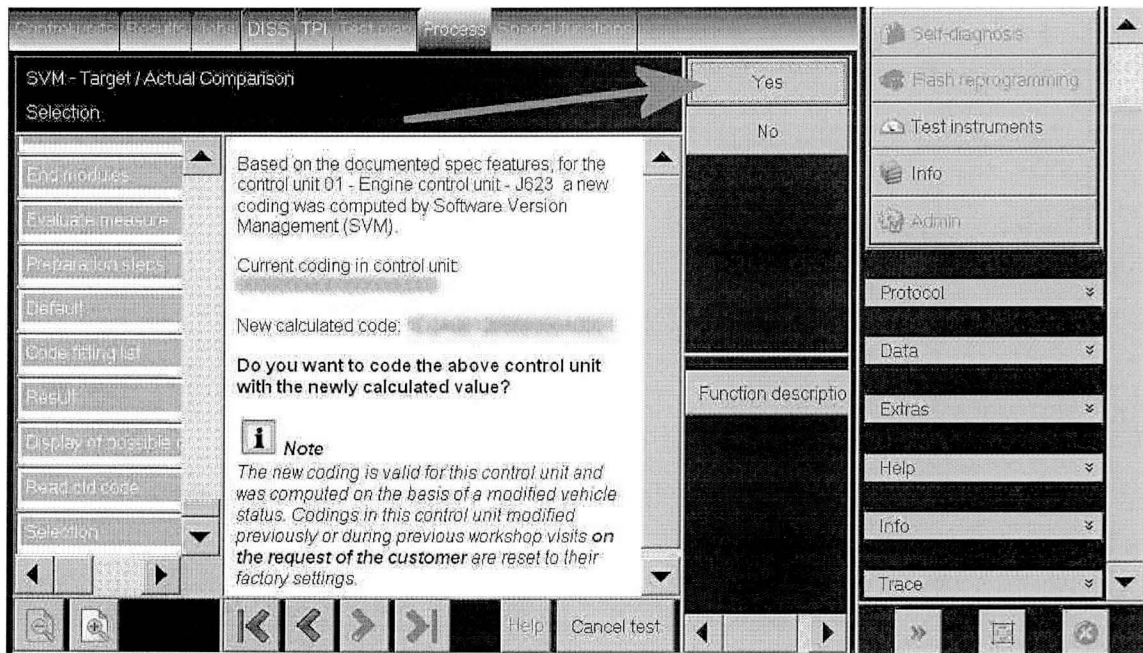

Figure 15
- Follow all remaining prompts until you reach the screen shown in Figure 15 - Select Yes to code the Engine control unit – J623